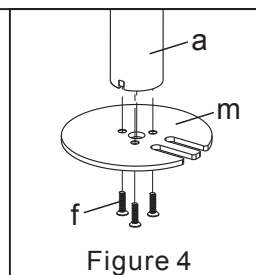

Figure 4
1. Install the Grommet Base Plate(m) to the Pole(a) using 3pcs M5x14 Bolts(f), and tighten using the Allen Key(o), see Figure 4.